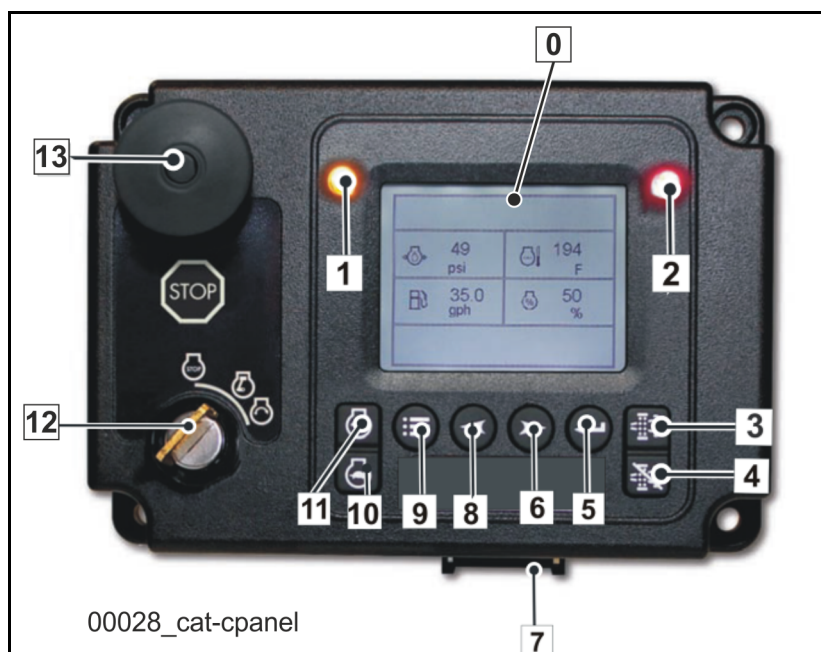

Fig. 13 IOPU Tier 4i, Stage IIIB - CAT control panel
Caption (Fig. 13)
- To configure the rotational speed, enable the TSC function by pressing button (14) once.
- Change the rotational speed with the help of buttons (10) and (11), see caption for (Fig. 13).
5.	The degree of clogging is displayed on the Caterpillar display, item 0 (Fig. 13) (bar graph or percentage).
<p>15. Start of regeneration (from point 3 at the latest):</p> <ul style="list-style-type: none">a) Allow the machine to idle unencumbered.b) Switch on the upgraded key-operated switch (1) (Fig. 15).c) Press button (3) (Fig. 13) for at least 3 seconds.d) Regeneration starts within the next 10 minutes (the motor may still have to reach operating temperature, for example).